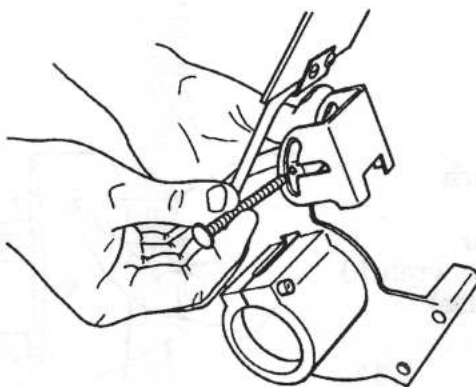

Fig. 9
9. Hold a tool rest (12) on the guard with the tool rest's "notch" facing the center opening, as seen in Fig. 9. With the tool rest held in place, insert a carriage bolt (11) through both the slot in the tool rest and the hole in the guard.